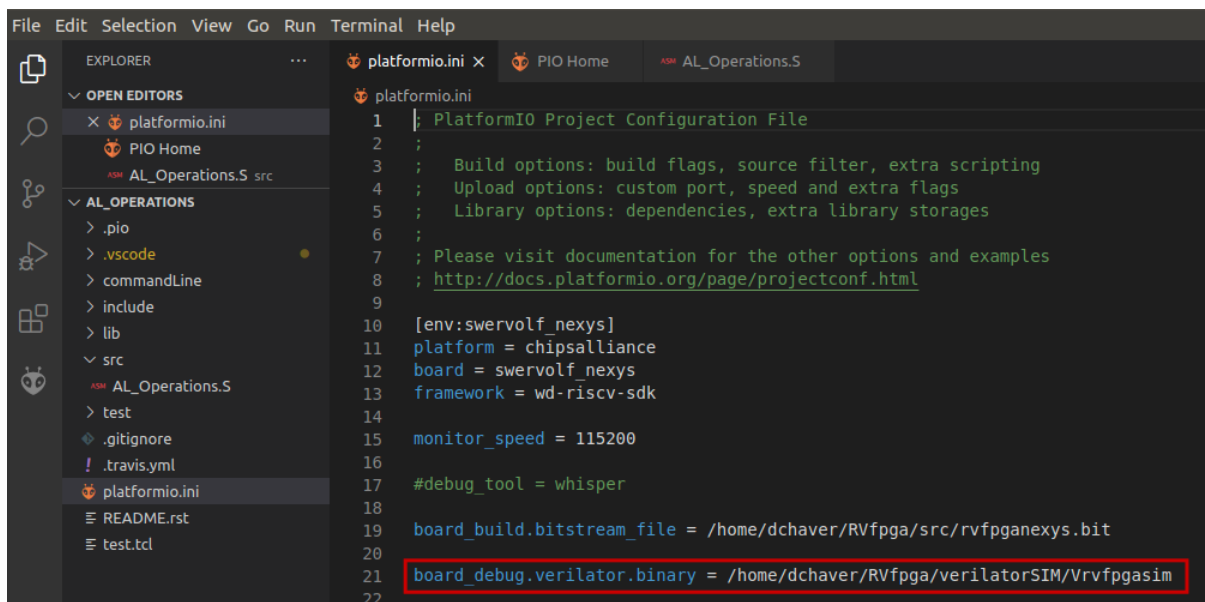

Figure 82. PlatformIO initialization file: platformio.ini
5. Open file *platformio.ini*. Establish the path to the RVfpgaSim simulation binary generated in the first step (*Vrvfpgasim*) by editing the following line (see Figure 82).